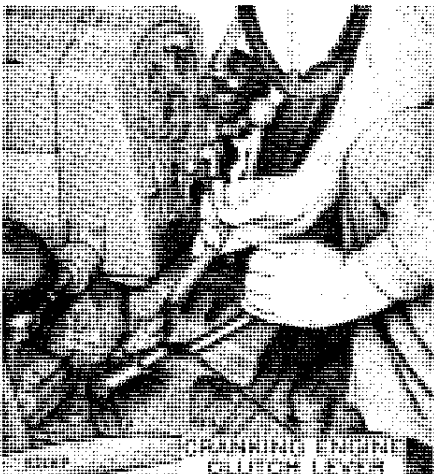

Figure 10-10-4—Operating Cranking Engine Clutch Lever
- (4) Slowly pull the cranking engine clutch lever all the way to the rear (Figure 10-10-4).